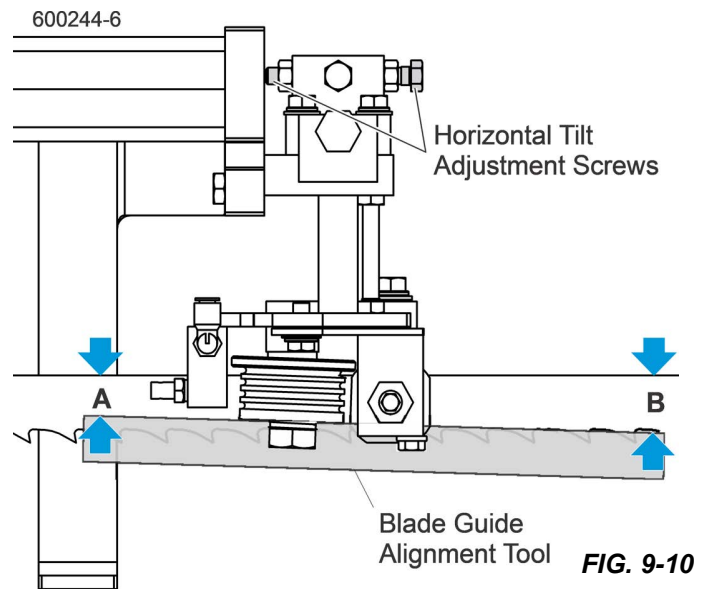

FIG. 9-10
1. Measure the distance between the flange on the **outer blade guide roller** to the back edge of the blade. See FIG. 9-10.